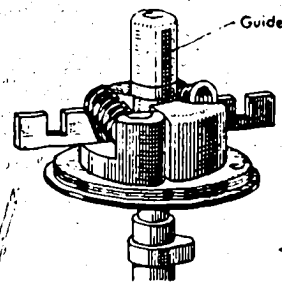

Fig. 10 Guide screwed on for assembly
5. Screw guide of 0 681 342 001 (EFEP 131) assembly tool on to coupling flange (Fig. 10). The drive flange of the latest timing devices has, instead of an oil seal, a brass ring with a groove into which an O ring is fitted. This brass ring has an internal diameter of 28 F 7 ($28 \begin{smallmatrix} +0,041 \\ -0,020 \end{smallmatrix}$) mm. From now on, the guides of the 1 687 950 015 (EFEP 231) assembly tool will be available with an external diameter of 28 h 11 ($28 \begin{smallmatrix} -0,130 \\ -0,130 \end{smallmatrix}$) mm. If the assembly tool available in the workshop has a 28.4 - 0.1 mm guide, this should be ground down to the 28 h 11 measurement ($28 \begin{smallmatrix} -0,130 \\ -0,130 \end{smallmatrix}$) mm.